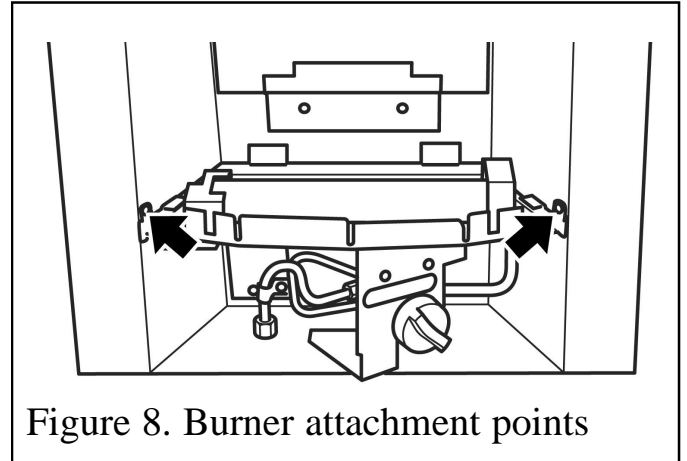

Figure 8. Burner attachment points
2. Detach the burner unit from the hotbox by removing two screws (See figure 8). Lift the burner unit clear.